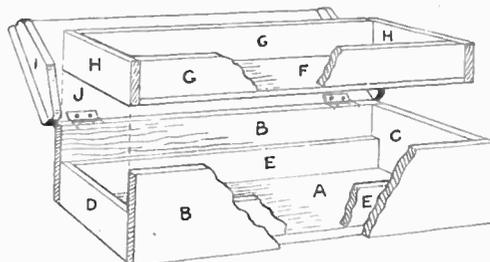

Fig. 2—Cut-away constructional detail
Allow the glue to harden, and then make the two runners (E). These are 7 3/8 ins. long by 3/8 in. wide, by 1/8 in. thick. See that the long edges are flat and even after cutting them—our glasspaper board comes in well again for this job. Wipe one side and one edge of the two runners with glue and press them down inside the box as shown in Fig. 2. In this diagram, parts of the sides, etc. have been shown cut away to make construction clear.